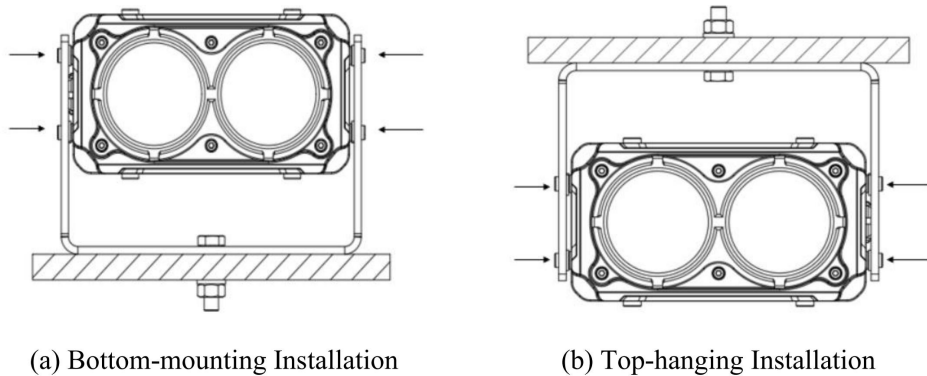

Figure 8 Product Installation Methods
Step 3: Install Spike-BF onto the bracket by fastening the four screws on the left and right sides. Adjust the vertical angle of the device. After that, fasten the four screws to complete the installation (see Figure 8).